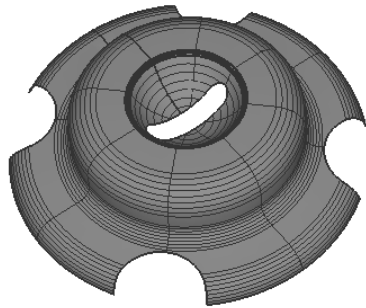

Figure 7-59 Base feature after trimming
4. Next, choose the **Discard** button from the active window; the selected portions of the surface are trimmed, as shown in Figure 7-59.